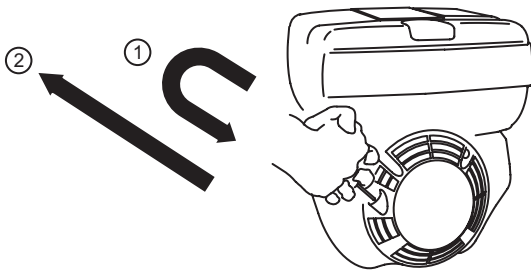

Figure 17. Engine Start Handle
- Grasp the starter grip (Figure 17) and slowly pull it out. The resistance becomes the hardest at a certain position, corresponding to the compression point.